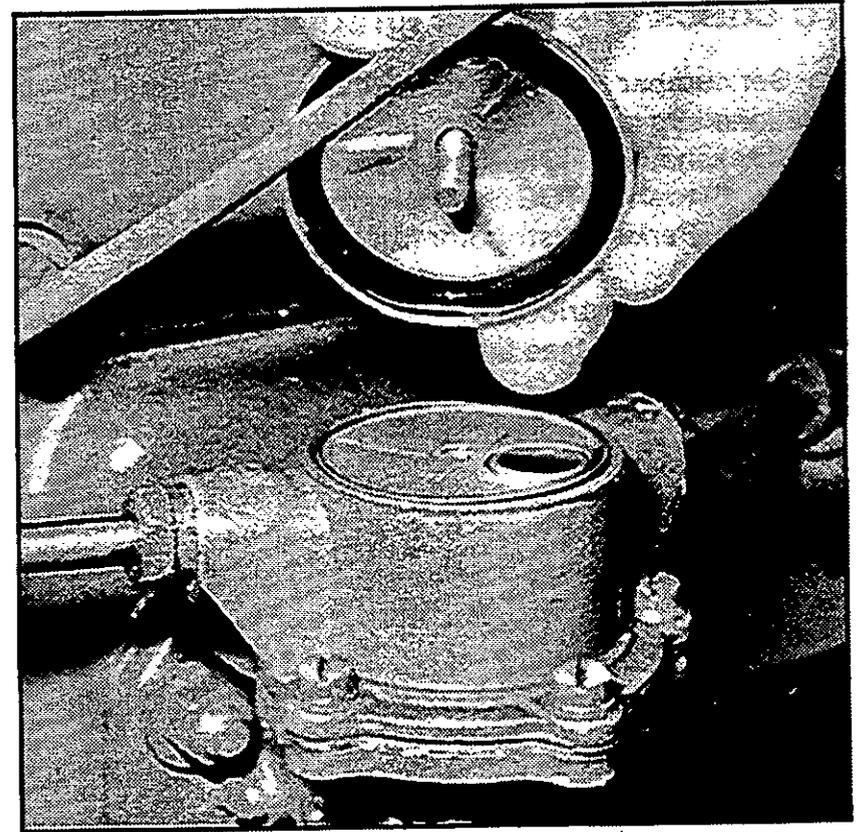

Fig. 18 Fuel lift pump cover removal.
- 1 Remove the cover and joint (see fig. 18) from the top of the fuel lift pump and remove the gauze strainer.